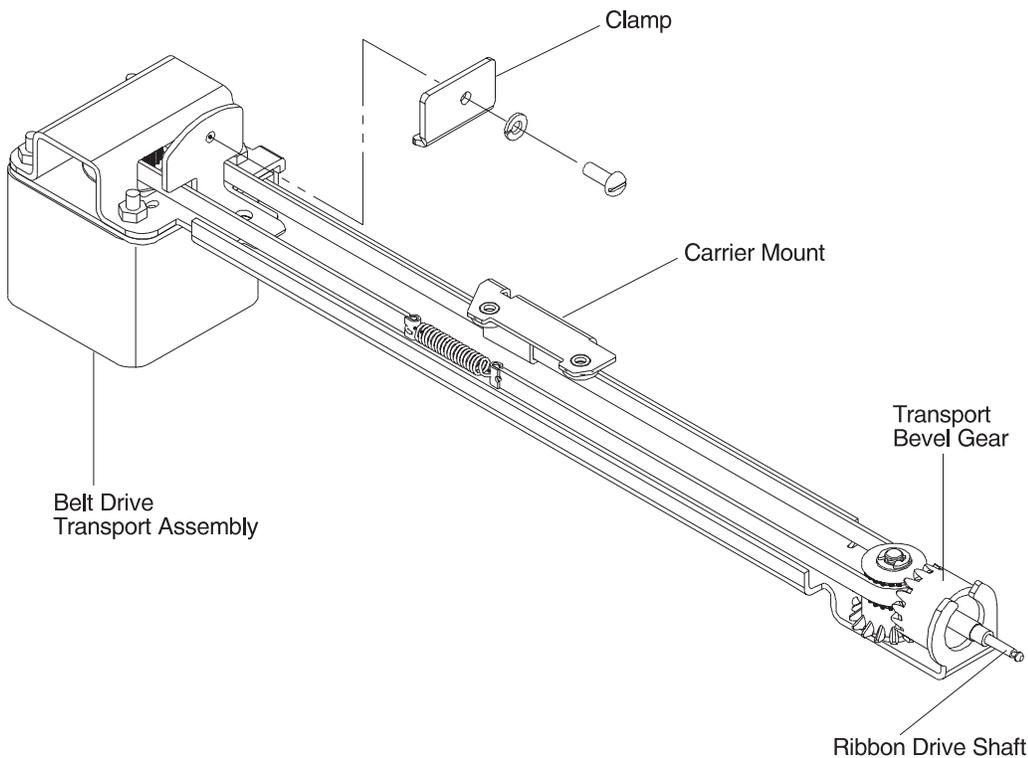

Figure 6-86. Belt Drive Transport Assembly
- 9 Remove the transport assembly clamp, lock washer, and screw. See Figure 6-86 on page 6-124.
- 2 Assemble the transport bevel gear and ribbon drive shaft assembly onto the transport assembly. See Figure 6-86 on page 6-124.
- 7** Align the carrier mount underneath the carrier and install the screws holding the print head. See Figure 6-86. Perform the print head gap adjustment. See “Replacing the Print Head” on page 6-83.